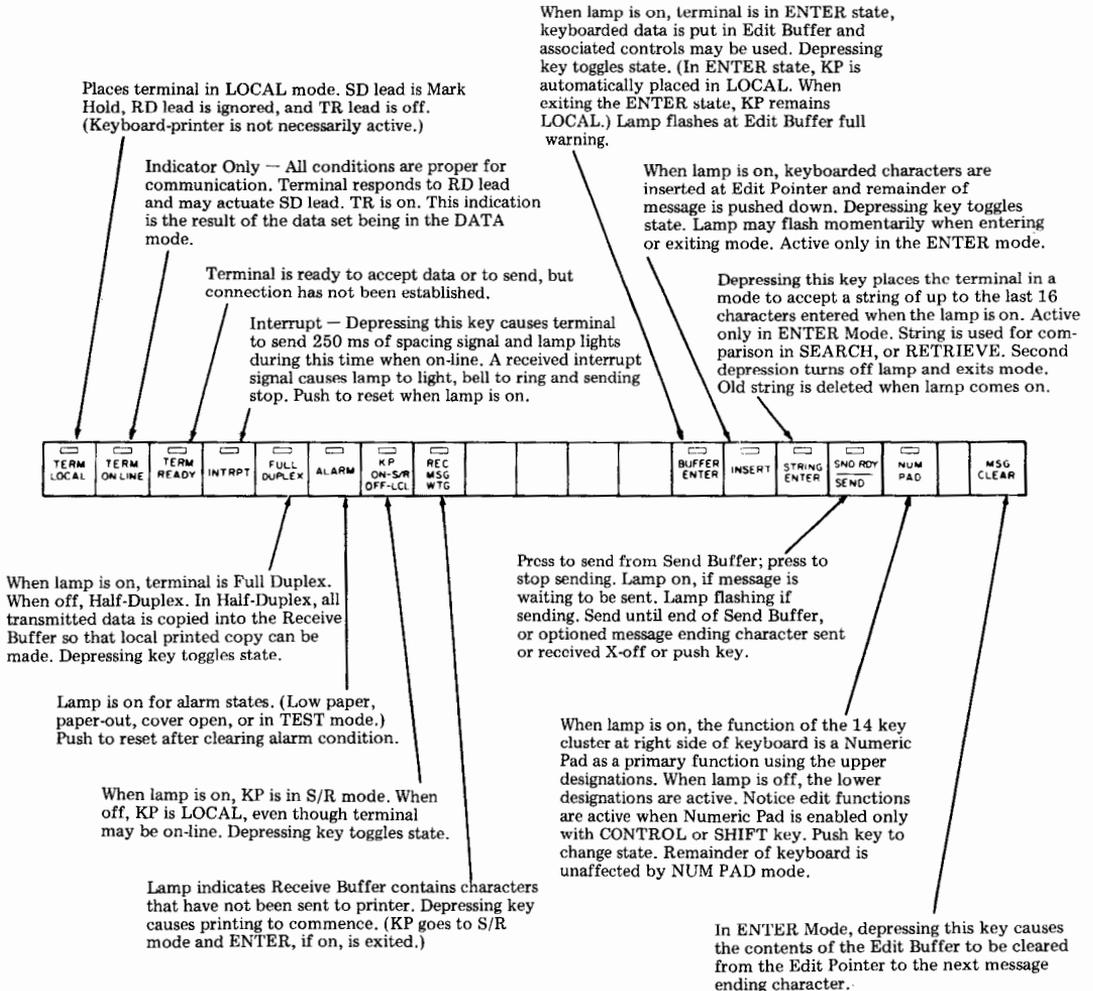

Fig. 3—Operational Controls and Status Indicators
3.02 The operational controls and status indicators for the teleprinter are briefly described in Fig. 3.